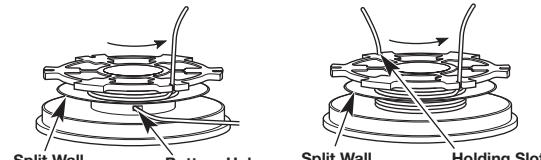
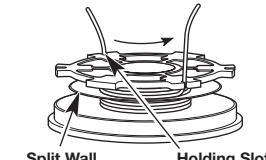

Fig. 15
Fig. 16
- Insert the end of the other line into the bottom hole in the inner reel (Fig. 15). Wind the line tightly in the direction shown on the bottom of the inner reel until about 3 to 9 inches (75 to 225 mm) of line remains. Keep the line below the split wall. Insert the 3 to 9-inch section into the opposite .095 holding slot (Fig. 16).